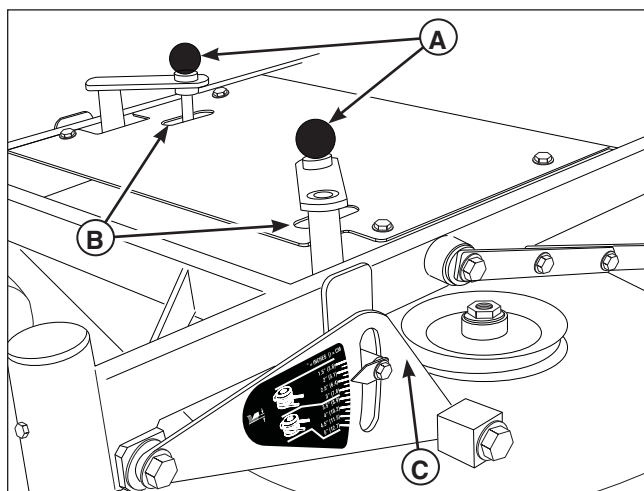

Figure 8. Remove the Cutter Deck Guard
1. Pull the cutting height adjustment handle (A, Figure 8) up and out of the handle lock position (B) and crank the handle **clockwise** to raise the deck to the desired cutting height. Crank the handle **counter-clockwise** to lower the deck to the desired cutting height. After the desired cutting heights are achieved position the cutting height adjustment handles into the handle lock position.